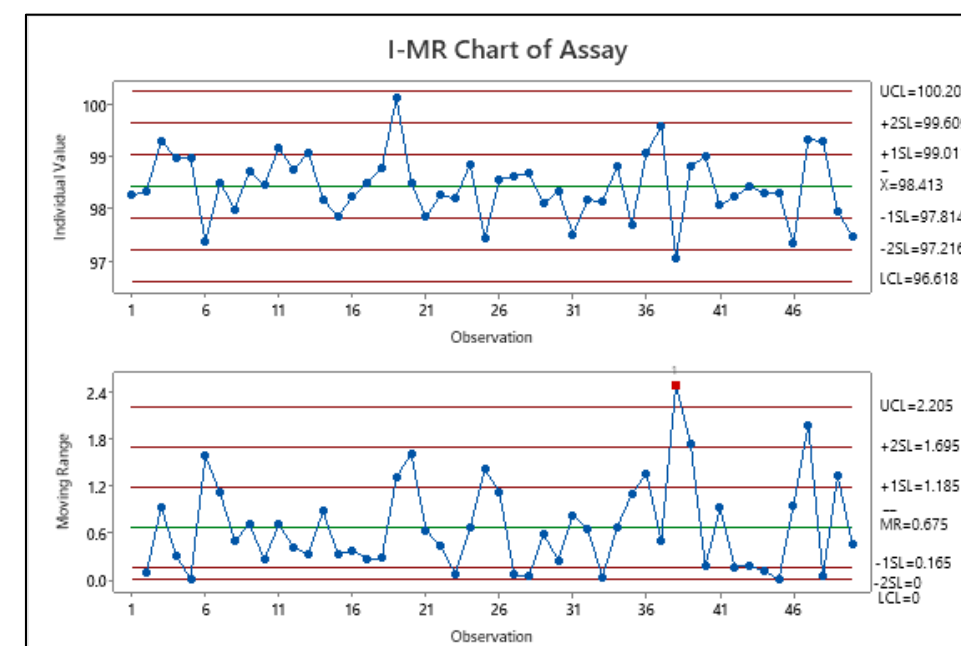

Figure 2: Control chart for assay (%) with one outlier on the Moving Range chart.
- One outlier in the moving range chart indicates a large jump between two batches that may require additional investigation (Figure 2)